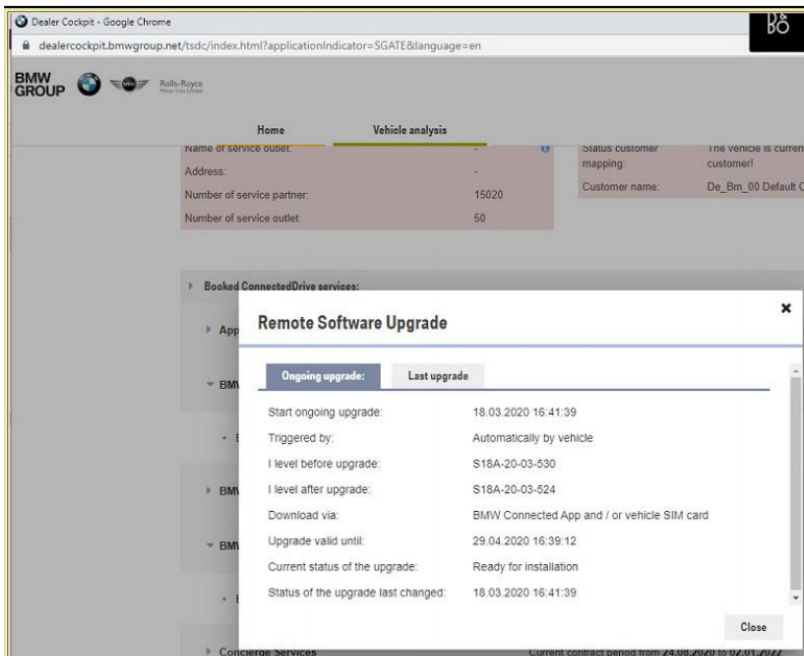
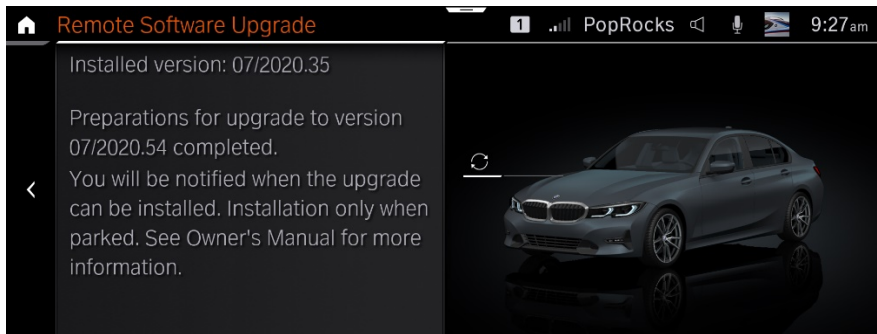

Figure 1: RSU status in the Dealer Cockpit Application
Figure 2: RSU status in the vehicle menu
Step1: Check the basic Remote Software Upgrade capability, either in the Dealer Cockpit as shown in figure 1 or in the vehicle menu: Menu à General settings à Remote Software Upgrade is displayed.
Either in the Dealer Cockpit (figure 1) or in the vehicle under Menu à General settings à BMW Remote Software Upgrade (figure 2), check whether an upgrade is currently offered for this vehicle: